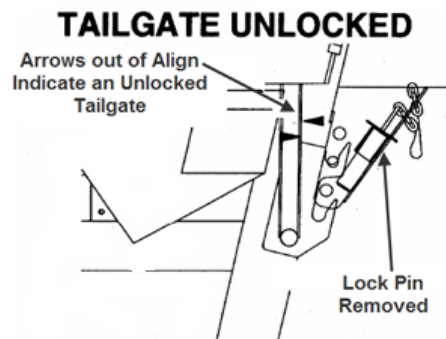

Figure 6. Tailgate Unlocked
1. Remove the lock pin and store pin in the keeper provided. See figure 6.
2. Unlock and raise the tailgate by PULLING the red rear handle on the underbody valve. It takes approximately 6 seconds for the tailgate to unlock and begin to raise. Note the UNLOCKED position of the arrows in figure 6.
3. Remove the locking pin from the keeper and install pin in the anchor hole, see figure 6.